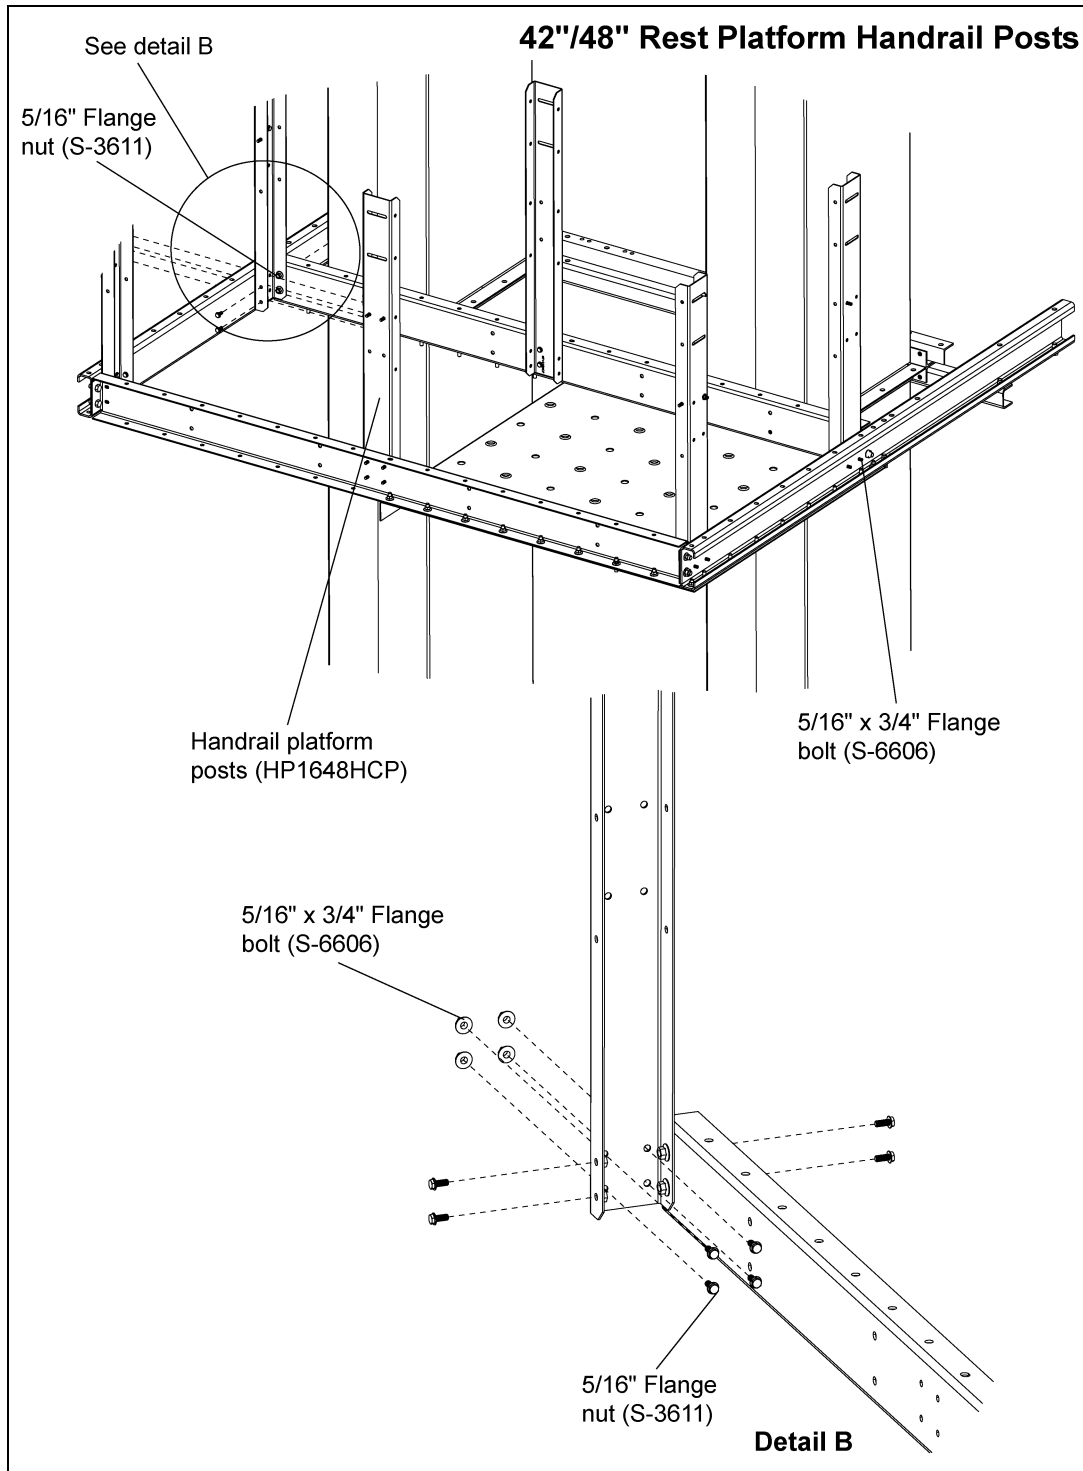

Figure 7J 42"/48" Rest Platform Handrail Posts
2. All posts use four (4) bolts on the front.
3. The corner posts use two (2) additional bolts along the sides (for a total of six (6) bolts).
- (See Figure 7J.)